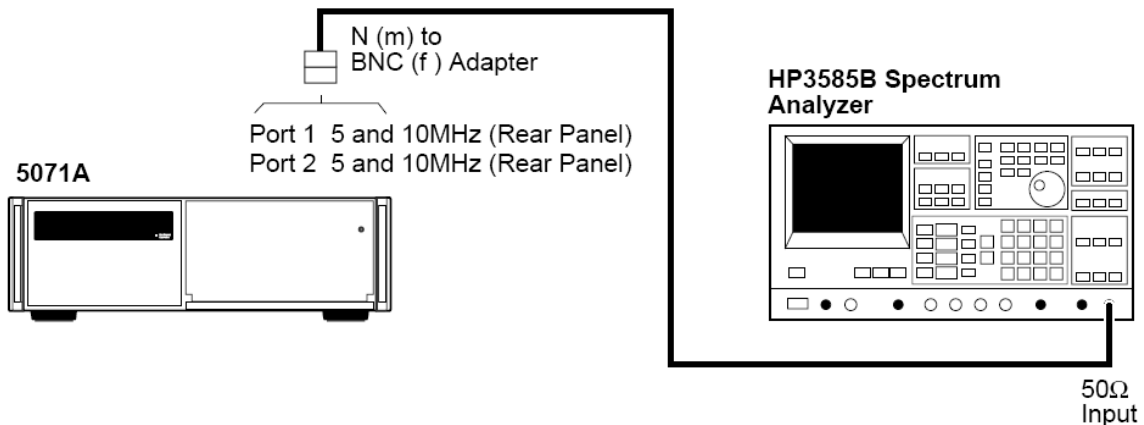

Figure 1-4. Non-Harmonic Distortion Test Setup
- 1 Connect the 5071A Port 1 to the 3585B analyzer as shown in Figure 1-4. Set the 3585B for 50 Ω input impedance.